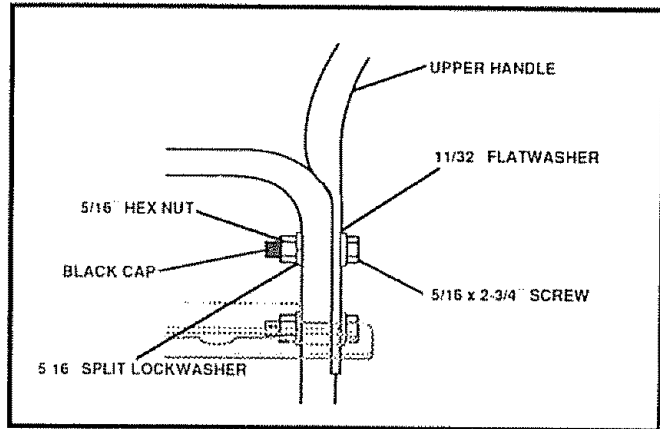

FIG. 4A
- Using the hardware (screws, flatwashers, lockwashers and hex nuts) removed from the shifter plate earlier, attach upper and lower handles in upper two holes (See Fig 4A). **Do not tighten.**